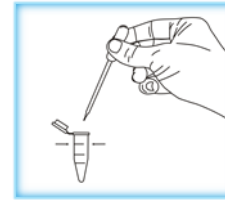

Figure 1
- Open sample vial cap and add 0.4ml of water sample using the disposable pipette (Figure 1).